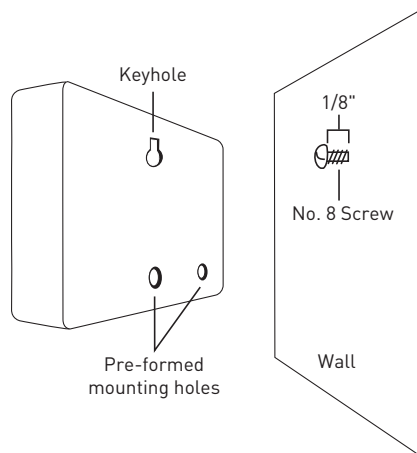

Figure 2: Hang timer on screw using keyhole
- Slip the HRL-100-60W over protruding screw (using keyhole slot in back). *See Figure 2.*
- Drive a No. 8 screw through one of the two pre-formed holes located in lower back cabinet. *See Figure 2.*